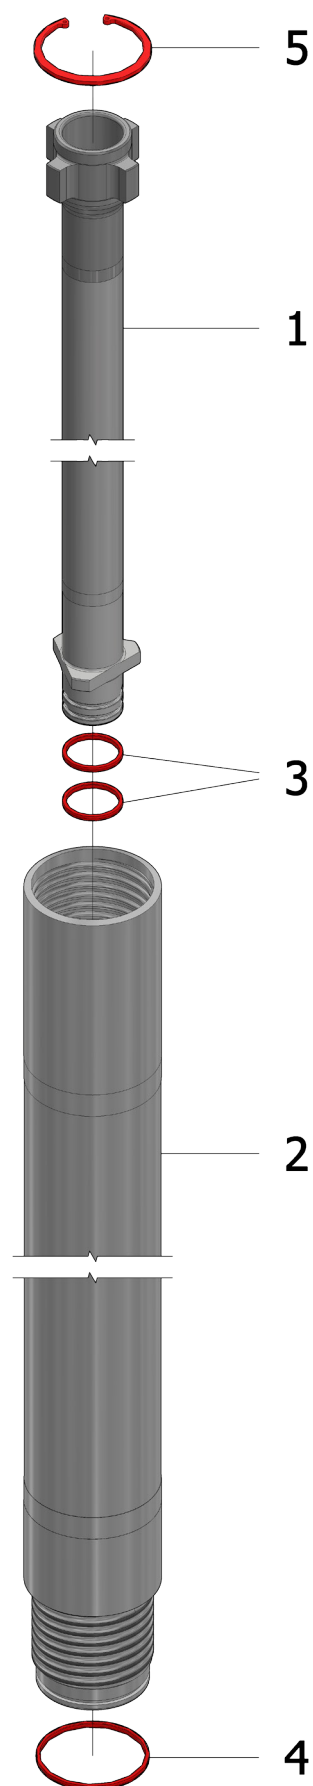

FIG. 3.15
**D.114 D2 ROD: J-W114D210 (L=1000); J-W114D220 (L=2000); J-W114D230 (L=3000) (REF. FIG. 3.15)**